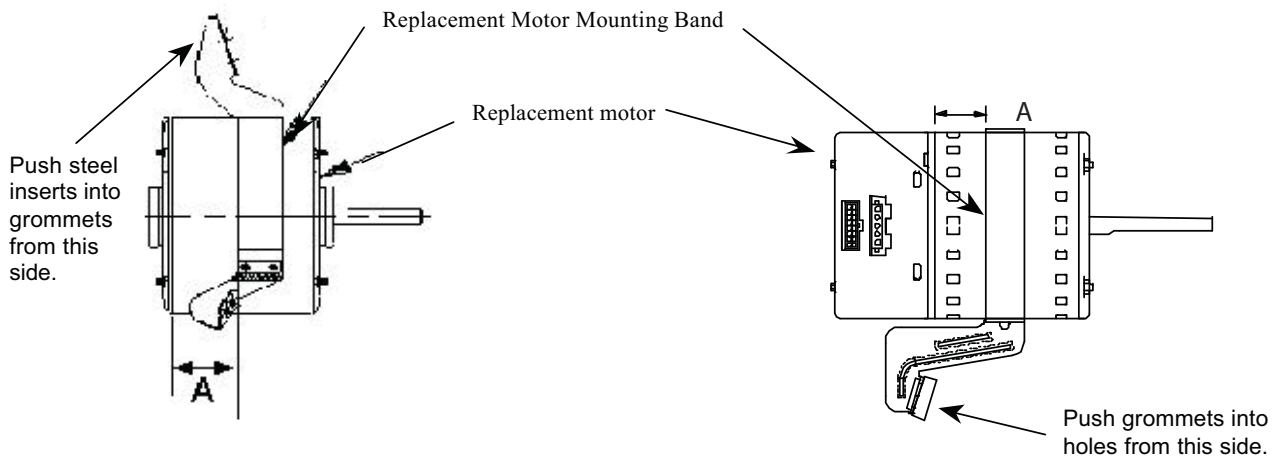

Fig. 1 - Dimension "A" Motor Mounting Band Location
1. Verify that the grommets and inserts (if used) are inserted in the mounting legs correctly per Fig. 1.
2. Place the motor mount around the mid-section of the motor. Position the motor around the mid-section of the motor as shown in Fig. 1.
3. Align the motor mounting arms as shown in Fig. 1. See Table 1 for the correct Dimension "A", as shown in Fig. 1